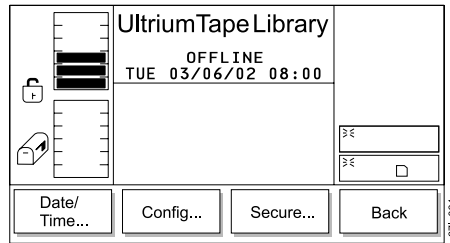

Figure 242. Utils Submenu
3. Press the button below the **Utils** softkey. The Utils Dialog displays (see Figure 242 on page 183).